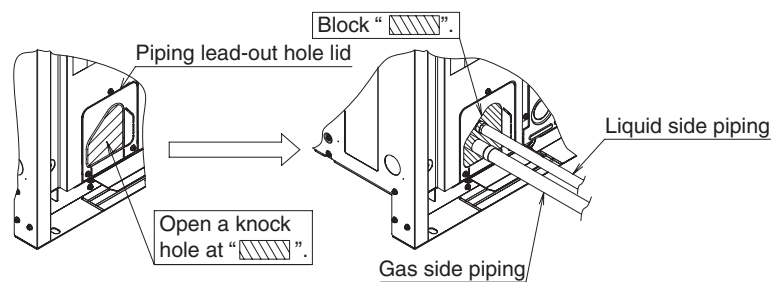

figure 30
- The piping lead-out hole lid should be attached after opening a knock hole. (**Refer to figure 30**)
- If small animals and the like might enter the unit through the piping lead-out hole, close the hole with blocking material (procured on site) after completion of “**2-11 Additional Refrigerant Charge and Check Operation**”. (**Refer to figure 30**)
- After knocking out the holes, we recommend you remove burrs in the knock holes (see figure 30) and paint the edges and areas around the edges using the repair paint.